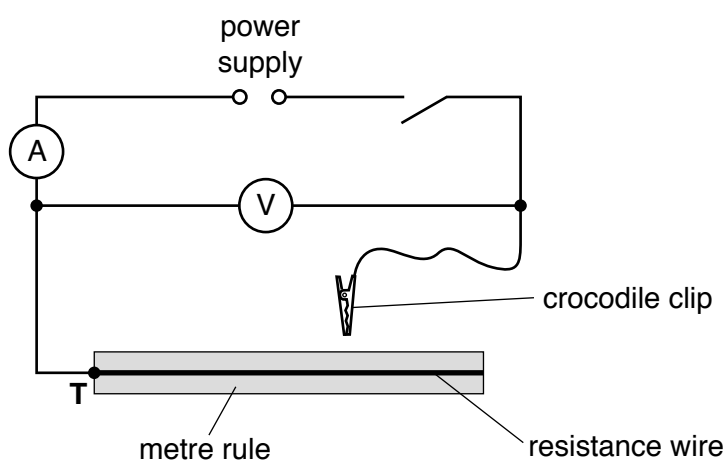

Fig. 3.1
- (v) Sufficient connecting leads to set up the circuit shown in Fig. 3.1.
2. The circuit is to be set up for candidates as shown in Fig. 3.1, with the crocodile clip not connected to the wire.
Ensure that the circuit is connected as shown in Fig. 3.1. Check that it is working, by connecting the crocodile clip at the 90 cm mark.